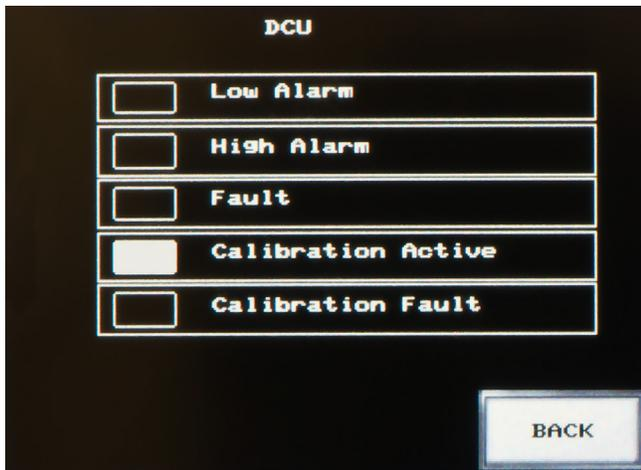

Figure 11—Calibration Active Indication on Point Display
2. Activate the Point Display within the Main screen for the device in calibration. The "Calibration Active" indicator becomes solid white when gas is applied (Figure 11).